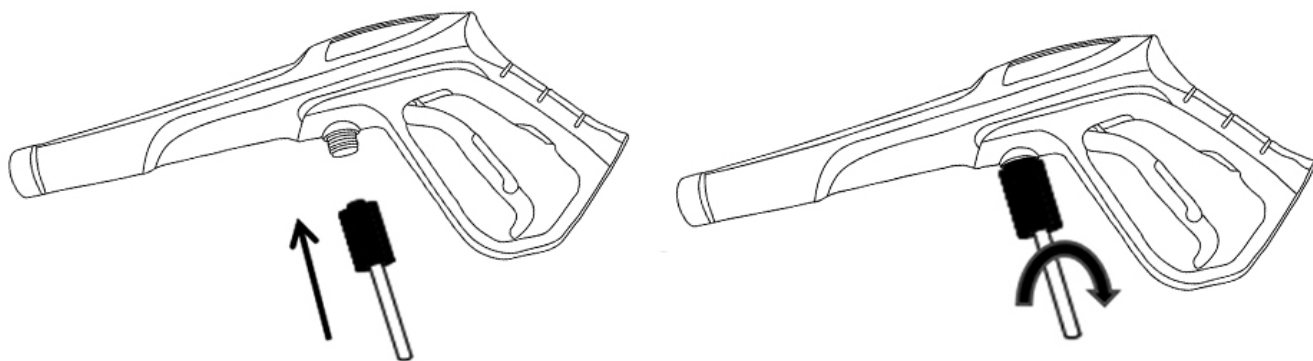

Figure 2&3: Pressure Hose Connect
1. Fixing the matching end of the hose firmly into the gun handle. See figure 2 and 3. Tighten the connector by hand only. Loosen the high pressure hose to avoid twist.